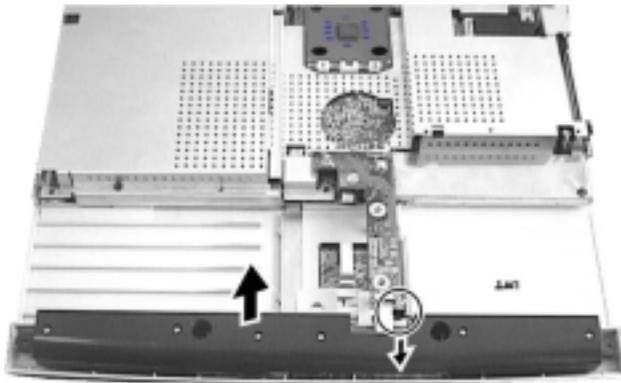

Figure 2-28
6. Lift up the speaker assembly and disconnect the cable. (figure 2-28)